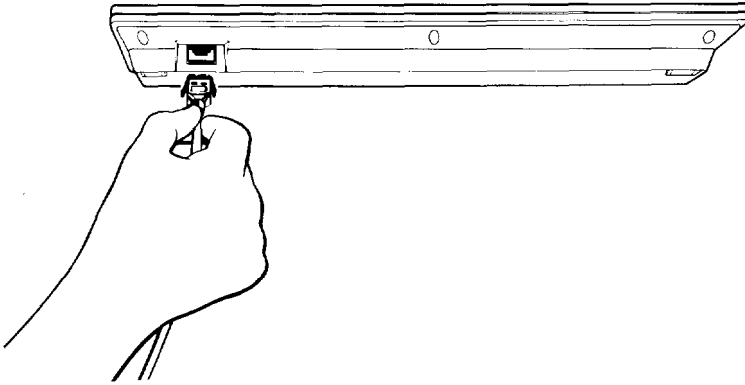

Figure 1-6. Connecting the cable to the keyboard
1. Connect the cable to the keyboard as shown in Figure 1-6. If there is a plastic band around the connector, remove it first.